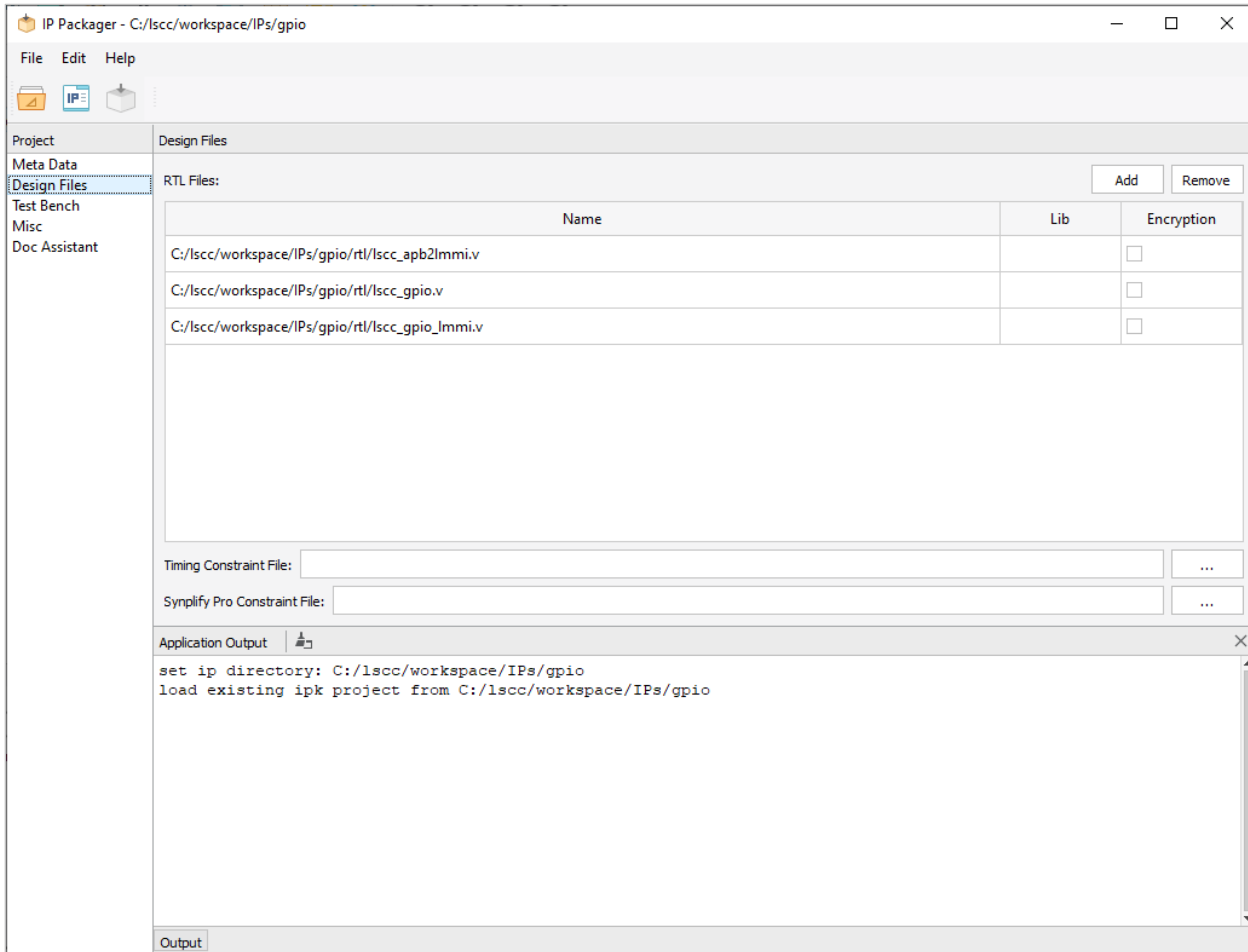

Figure 3.28. IP Packager with Design File Details
- From the IP Packager Project area, click **Design Files**. IP Packager GUI shows the Design Files information (Figure 3.28).